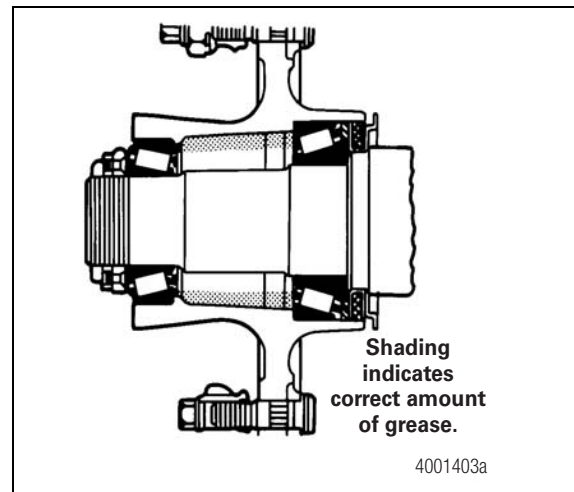

Figure 5.5
7. Pack the inner bearing cone with Meritor specification O-617-A or O-617-B grease. Figure 5.5.